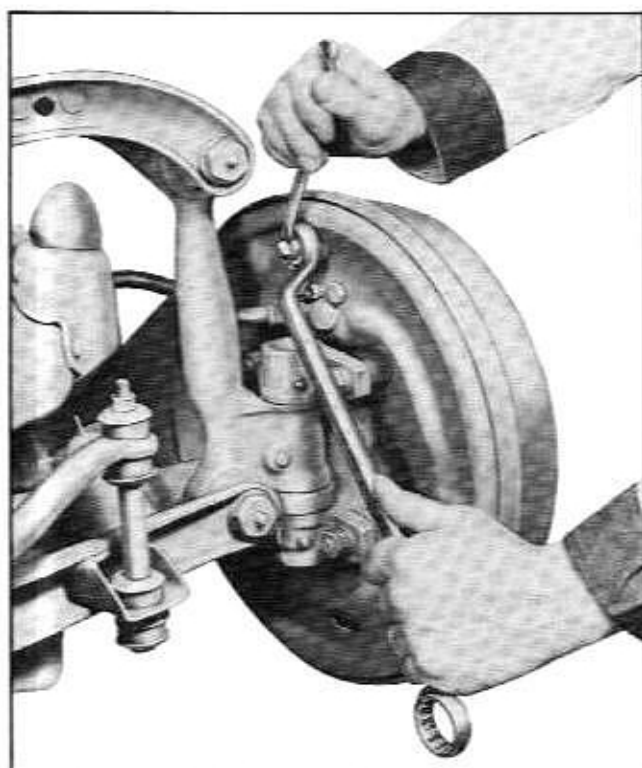

Fig. 5-10 Adjusting Anchor Pin
3. Loosen anchor pin nut (Fig. 5-10) and turn anchor pin in required direction to obtain correct drag on feeler gauge when checking as outlined in Step 2 above. If drag at anchor pin end of secondary shoe is too light, turn anchor pin in direction wheel turns as car moves forward; if too heavy, turn pin in opposite direction.